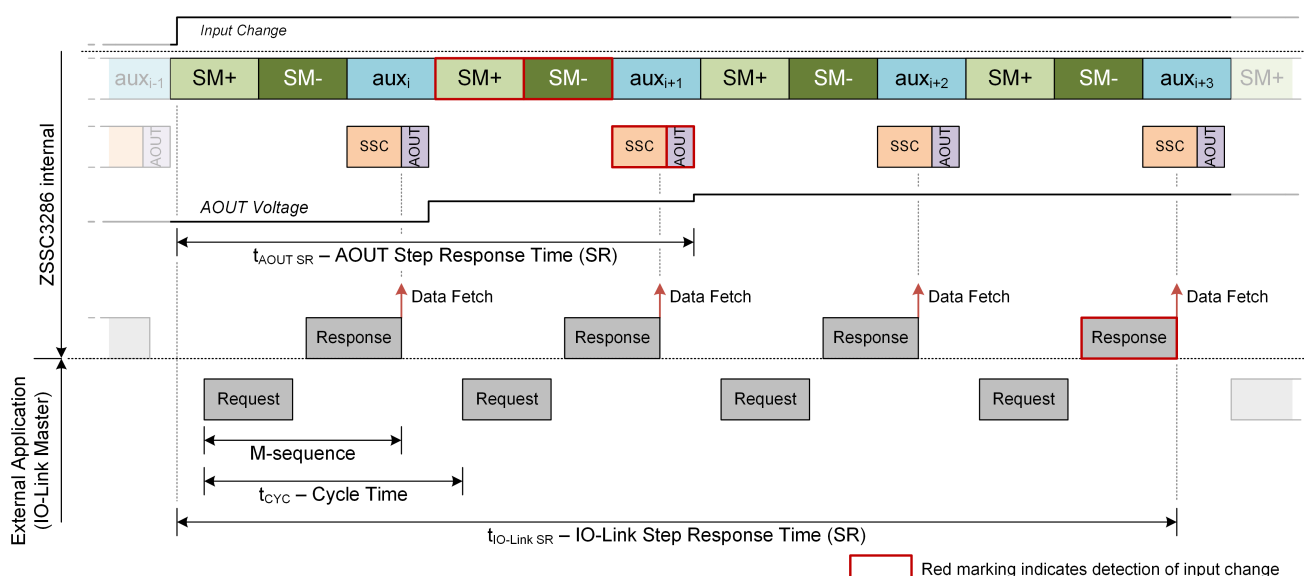

Figure 23: SM+/SM- Step Response
For SM+/SM- configuration the worst-case step response is shown in Figure 23 and consists of:
- SM+/SM- configuration: refer to Figure 23 and description for step response in subsection 4.6.3